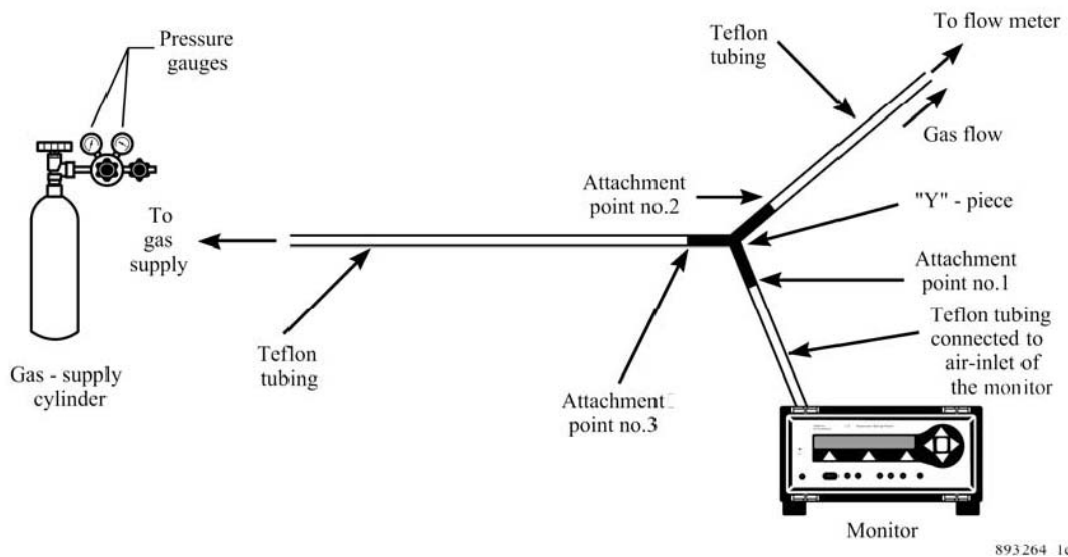
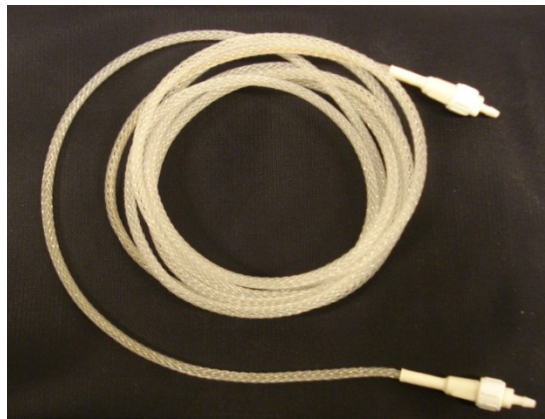
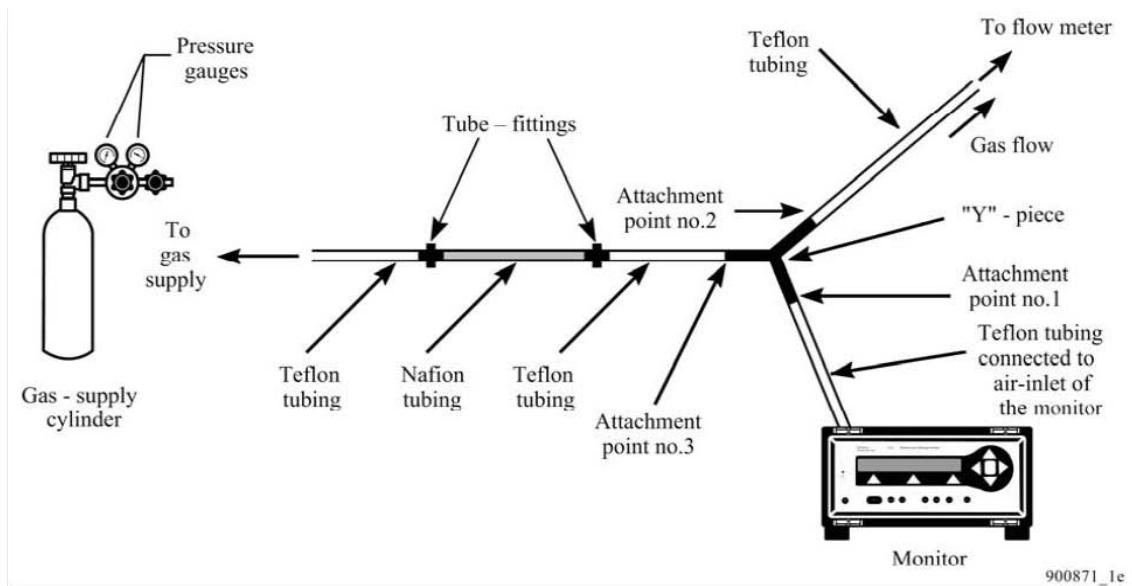
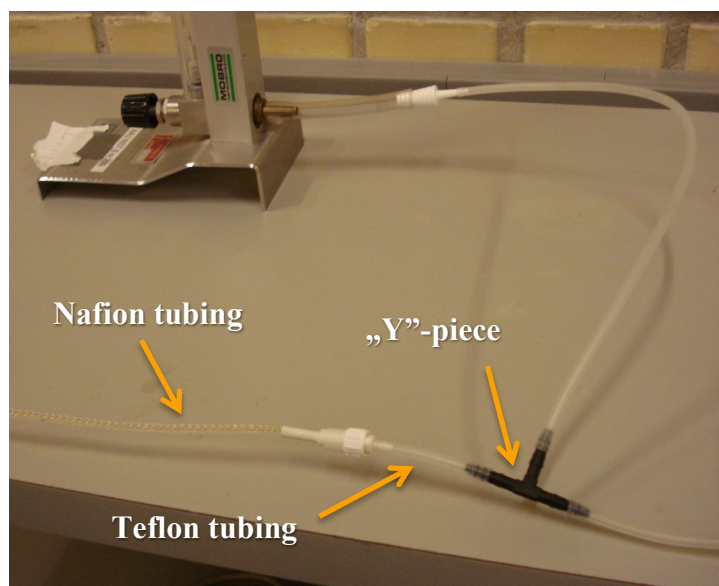

Figure 8. Scheme of general equipment required for a calibration task. (1)
Figure 9. Nafion tubing.
Figure 10. Scheme of equipment required for a calibration task with the Nafion tubing attached. (1)
Figure 11. Nafion tubing and “Y”-piece connection.
The scheme of general equipment needed to perform the calibration is shown on Figure 8. Three Teflon tubes are connected with each other by a “Y”-piece, exemplary Teflon tubing can be seen on Figure 11. The tube attached to point 1 is connected to the air-inlet of the Monitor, tube connected to point 2 is attached to a gas flow meter and the tube connected to point 3 is attached to the gas cylinder, which is used during the calibration. It is recommended that the Teflon tubing attached to the air-inlet should be maximum 50 m length.
When performing calibration with one of the filters: UA0983, UA0984, UA0985, e.g. carbon dioxide (CO₂), carbon monoxide (CO), dinitrogen oxide (N₂O) additional tubing, called Nafion tubing is required. Picture showing Nafion tubing can be found below, see Figure 9. The Nafion tubing should be connected by tube-fittings to the Teflon tubing between the “Y”-piece and the gas cylinder, see Figure 10 and Figure 11. Do not place it between the “Y”-piece and the Monitor due to higher gas usage.